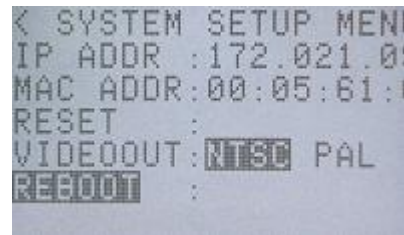

Figure 5-28 REBOOT
- 3) Use the arrows   to select "REBOOT" and press SET  (Figure 5-28).